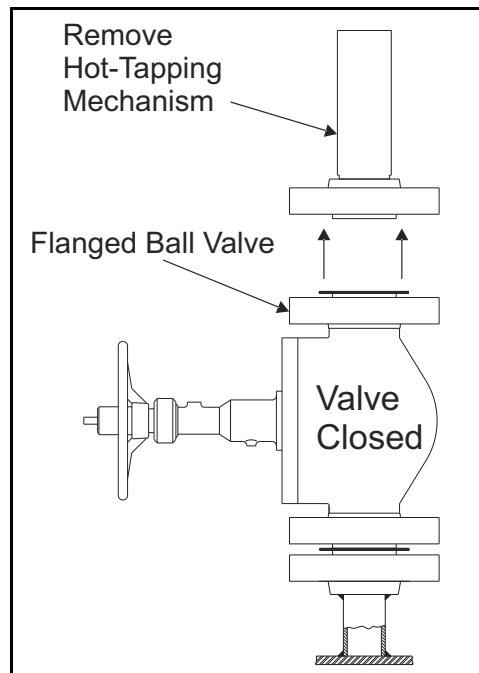

Figure 11: Removing the Mechanism from the Port
7. Unbolt the hot-tapping mechanism from the ball valve and remove the mechanism from the port (see *Figure 11* below).